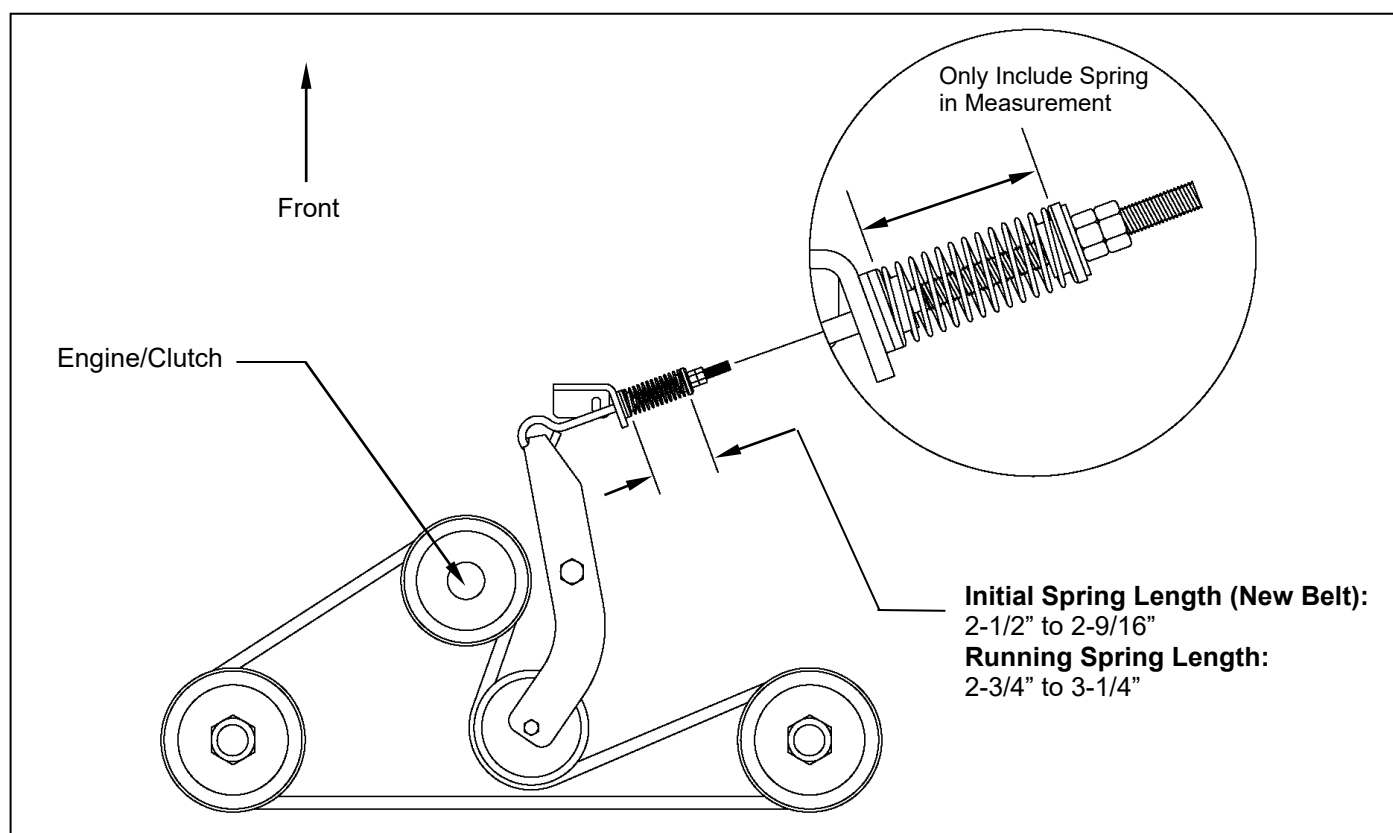

Figure 10: Belt Pattern, Spring Adjustment, and Brake Adjustment
F. DRIVE BELT REMOVAL AND TENSION – Refer to *Figure 10*
Install the new belt and then adjust the tension as follows: **See Figure 10.**